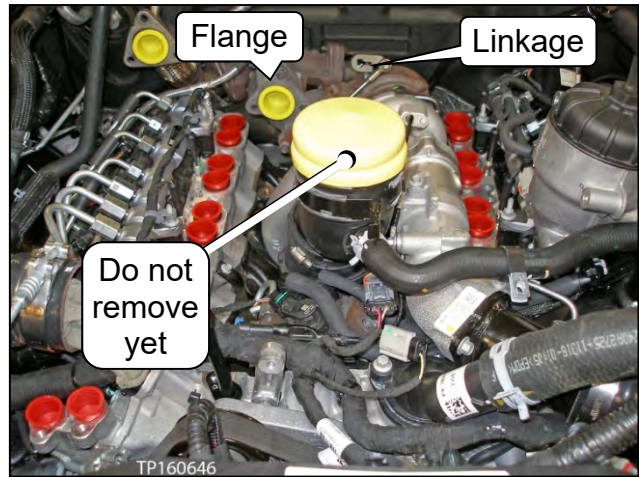

Figure 83
24. Remove all plugs shown in Figure 83 now.